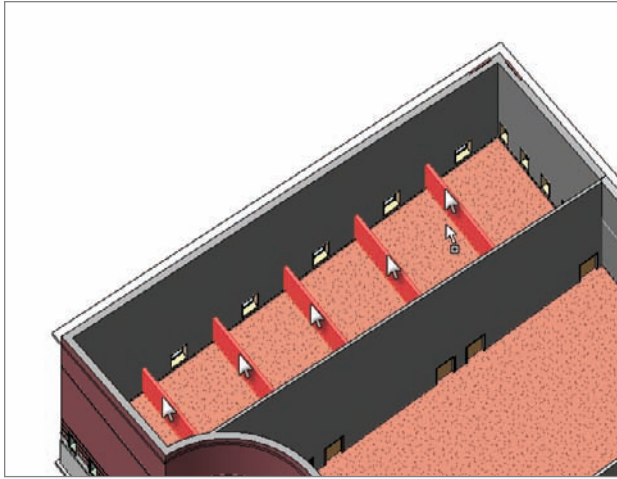

FIGURE 9.13 Selecting the partitions
1. While still in a 3D view, select the partitions shown in Figure 9.13.